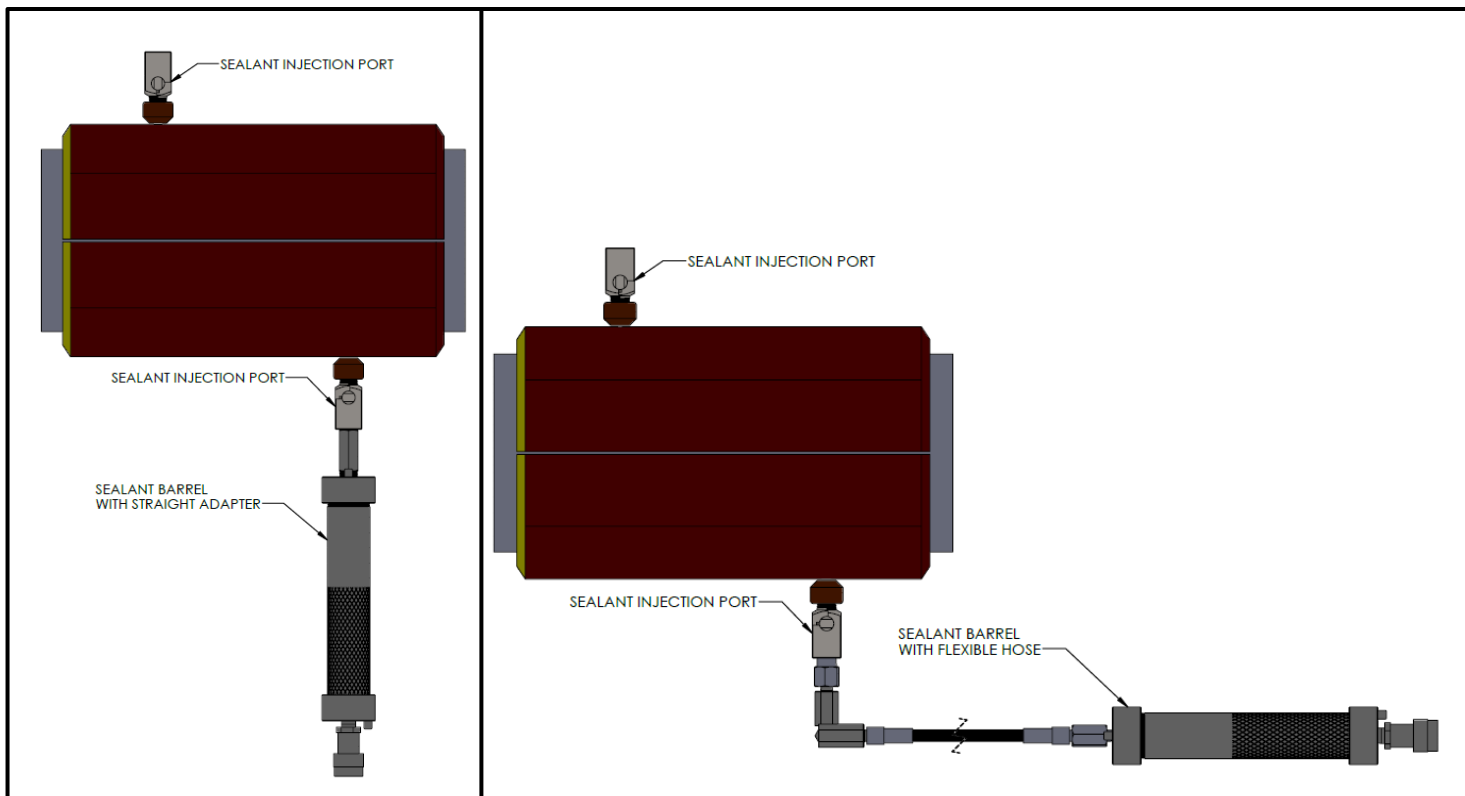
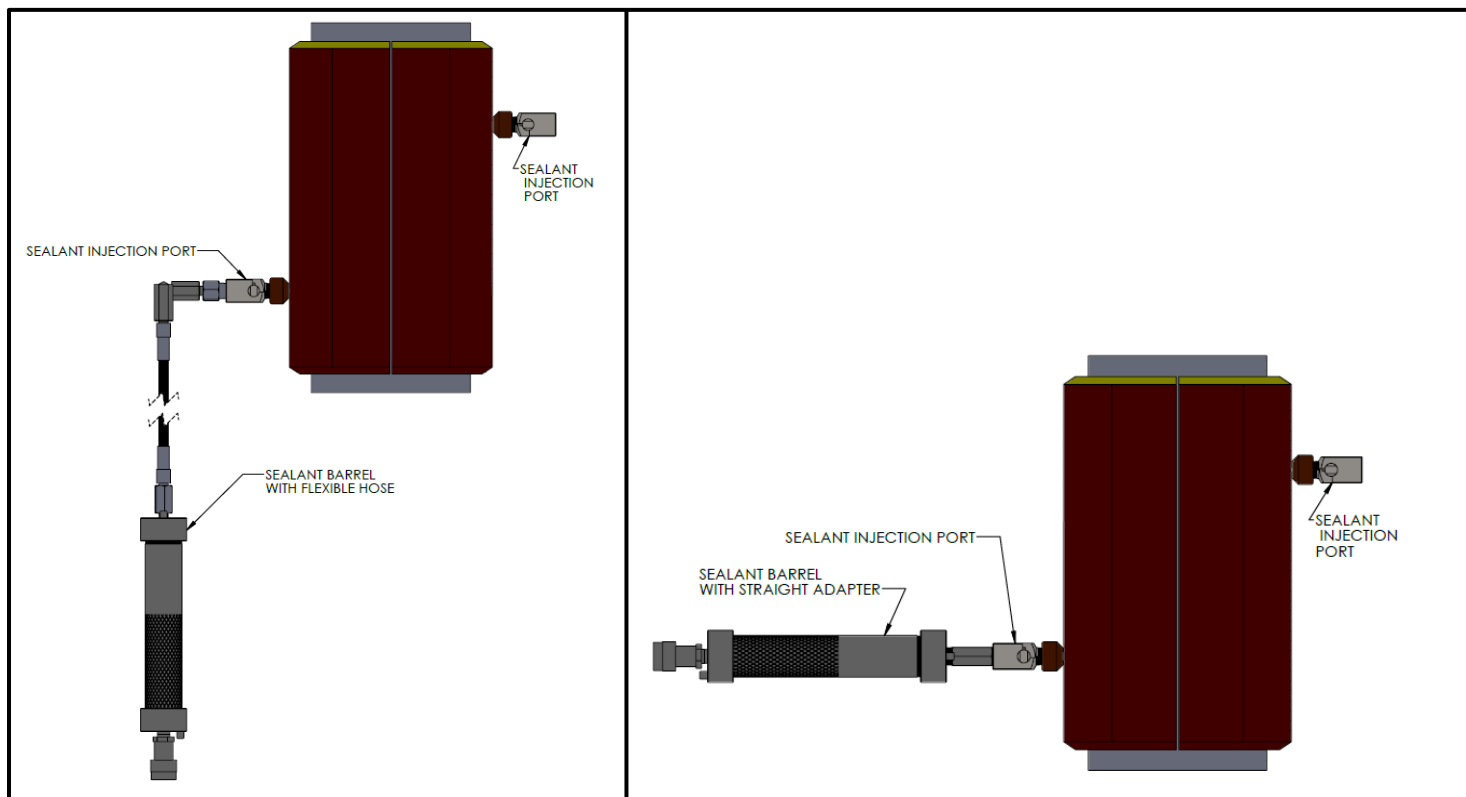

Figure 2
Figure 3
2. Install the PLIDCO fitting, making sure it is completely installed and fully bolted/torqued prior to injecting sealant. During installation of the PLIDCO fitting, make sure to have one sealant injection port as close to the top as possible. This will ensure the annulus of the PLIDCO fitting is completely filled with sealant as all the air or liquid is pushed out of the top of PLIDCO fitting. (See Figure 2 and 3)
4. Connect a sealant barrel to the closed sealant injection port on the bottom of the PLIDCO fitting. If clearances are an issue, use the flexible hose adapter. Start to inject sealant into the closed sealant injection port. Once pressure starts to build on the pump, open the sealant injection port to allow sealant to flow into the fitting. (See Figure 2 and 3)
4. Connect a sealant barrel to the closed sealant injection port on the bottom or farthest injection port away from the active leak. If clearances are an issue, use the flexible hose adapter. Start to inject sealant into the closed sealant injection port. Once pressure starts to build on the pump, open the sealant injection port to inject sealant. (See Figure 2 and 3)
1. During installation of the fitting make sure to have one sealant injection port as close to the top and as close to the leak as possible but not directly over the leak. This will insure the annulus of the fitting is completely filled. See Figure 2 for horizontal installations. See Figure 3 for vertical installations.